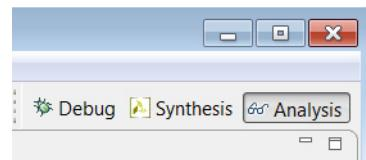

Figure 6-7: Opening the Analysis Perspective
- The loops in the `read_data` and `write_data` functions are therefore implemented at the top level and are reported as loops in the top-level function (Figure 6-7).
1. Click the **Analysis** perspective button (Figure 6-7) to begin interactive design analysis.